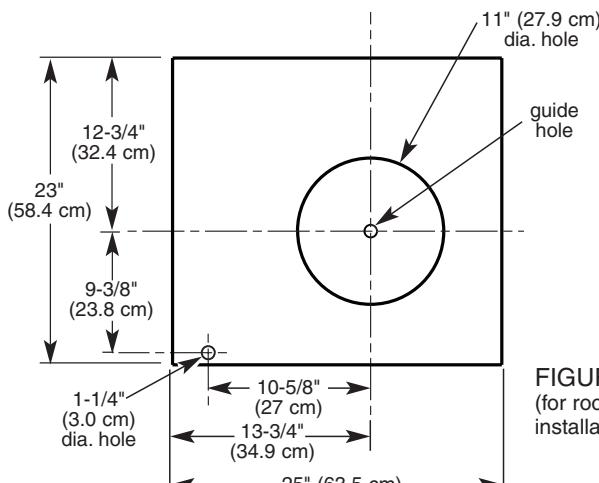

FIGURE 2
3. From the outside, using the guide hole as a starting point, mark the rectangular cut-out as indicated in FIGURE 2. Remove only the shingles in this area.
4. Mark an 11" (27.9 cm) diameter circle around guide hole as indicated in FIGURE 2. Mark center of the 1-1/4" (or 3.0 cm) diameter hole for the electrical wiring as indicated in FIGURE 2.